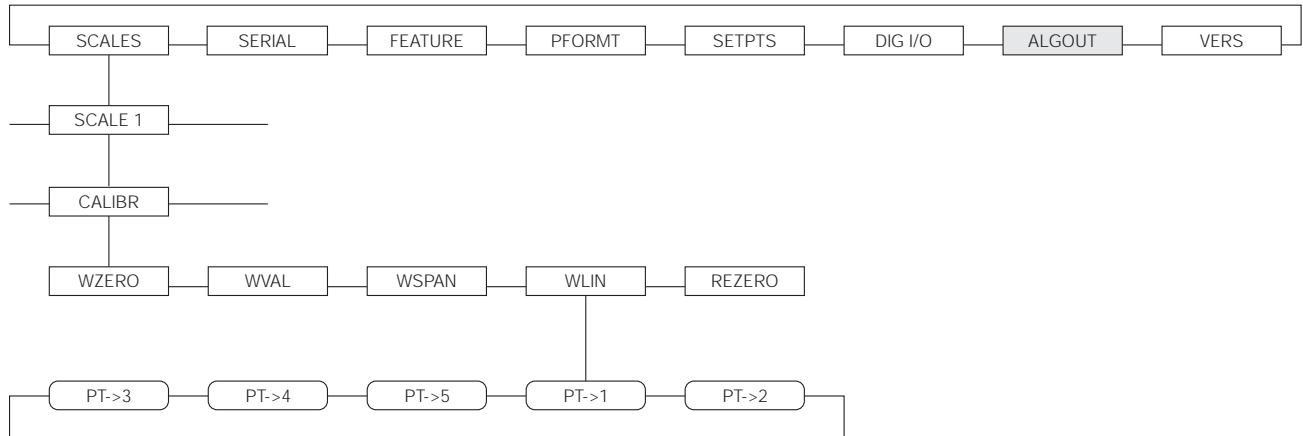
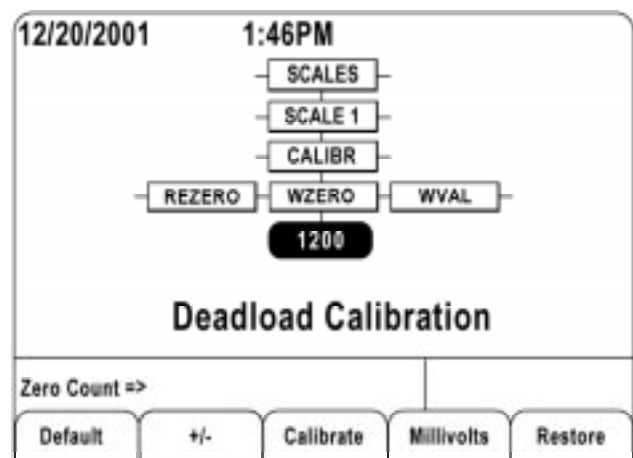

Figure 4-1. Calibration (CALIBR) Submenu
Figure 4-2. WZERO Calibration Display
The **CALIBR** submenu (under the **SCALES** menu, see Figure 4-2) is used to calibrate the *920i*. The zero, span, and linear calibration point displays provide a set of softkeys used specifically for calibration procedures:
2. With the *SCALES* menu highlighted, press the down key, then select the scale to be calibrated. Press down again (*GRADS* parameter highlighted), then press left to highlight the *CALIBR* submenu (see Figure 4-1). Press down to go to zero calibration (*WZERO*). See Figure 4-2 on page 36.